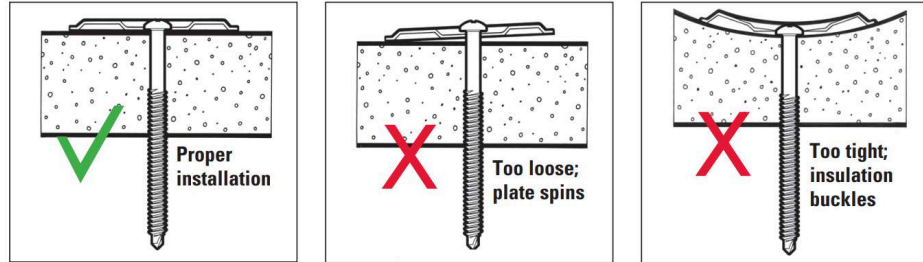

Figure 3
- Secure plates with RhinoBond fasteners. For best installation results, use a variable speed screw gun (2,500 rpm max.) Do not overdrive fasteners. (See Figure 3)